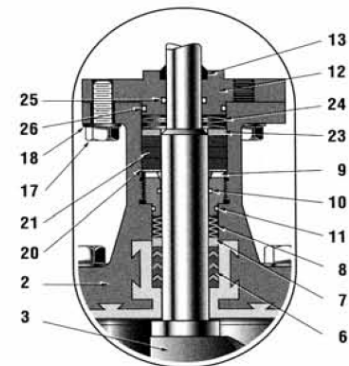

Figure 4
1. Remove screws (17) and washers (18) and take off the actuator connecting flange (12). In the case of models with safety packing (Figure 4), remove the disk springs (24), upper packing box ring (23), packing rings (21) and base ring (20).
If the control valve is equipped with a safety packing, insert the base ring (20), three packing rings (21), upper packing box ring (23) and three disk springs (24) in accordance with Figure 4.
9. Insert the wiper ring (13) into the actuator connecting flange (12). When the actuator connecting flange has the grooves option, the relevant O-rings (25 inner, 26 outer) are to be inserted.
10. Slide the actuator connecting flange over the plug shaft and secure it to the bonnet with screws (17) and washers (18).
⁽¹⁾ Refer to Figure 4